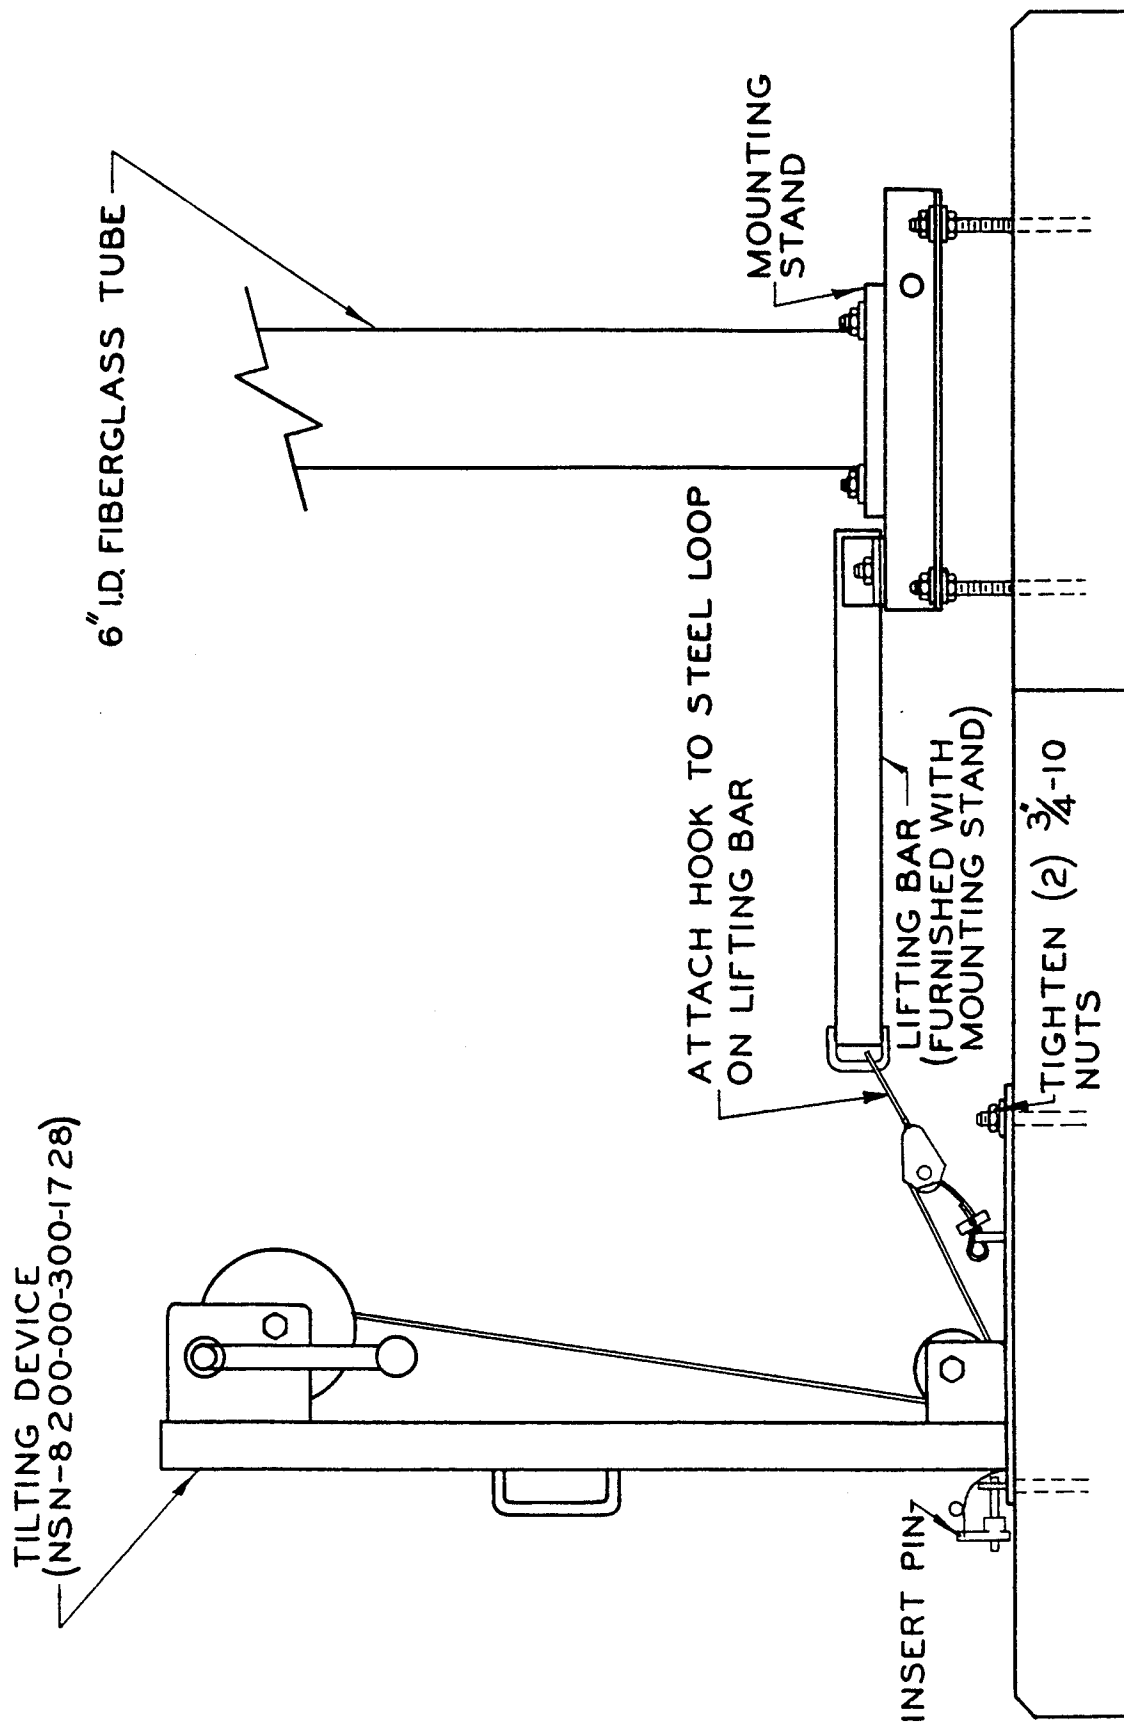

FIG. 3-1
1. Attach tilt device to concrete pier by sliding it under the nuts on the two anchor bolts and over the tab provided in the concrete pier. (See Figure 3-1). Tighten the nuts on the anchor bolts with the 1-1/8" or 1-1/4" open end wrench. Insert the pin, attached to the tilt device, through the hole in the tab. The tilt device should now be solidly secured to the concrete pier.
2. Attach the cable hook from the tilt device to the steel loop on the lifting bar of the MG-20 mounting stand assembly. Turn handle of winch to play out enough cable to reach lifting bar shackle. After the cable is attached to the lifting bar, take up cable slack with winch. (See Figure 3-1)